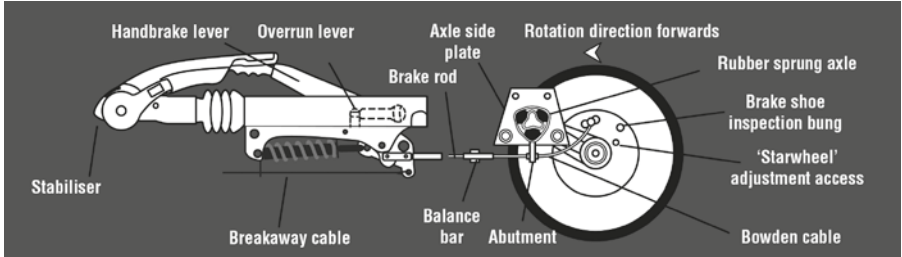

Figure 10 Brake Linkage
1. Ensure the towing shaft with coupling head is pulled FULLY FORWARD. (Fig. 10).
2. Release the handbrake to the FULLY OFF position. If the handbrake will not go down the whole way because of the fairing or any other obstruction; then the fairing must be cut away and/or the obstruction removed to achieve this desired position. It will not be possible to set up the braking system properly when the handbrake is not in the FULLY OFF position. (Fig. 10).
4. Remove the inner plastic bung from the backplate to expose the "starwheel" adjuster access. (Figs. 10 & 11).
9. Ensure the balance bar (compensator) is being pulled evenly (Figs.10 & 12). Excessive movement to this bar (double on tandem axles) would indicate possible incorrect adjustment (if appropriate, repeat step No. 7 - Fig. 12).
11. Remove the slack in the brake rod by adjusting the long ball nut, rear of the balance bar, ensuring the overrun lever makes contact with the end of the towing shaft. Note! Over adjustment to the long ball nut (Fig. 12/Item 2) could induce movement of the inner brake cable, reducing the effective clearance of the brake shoes. If the overrun lever will not make contact, it is possible the two lock nuts, forward of the spring cylinder, are incorrectly adjusted. Loosen the nuts and adjust brake rod as above (Figs. 10 & 12).